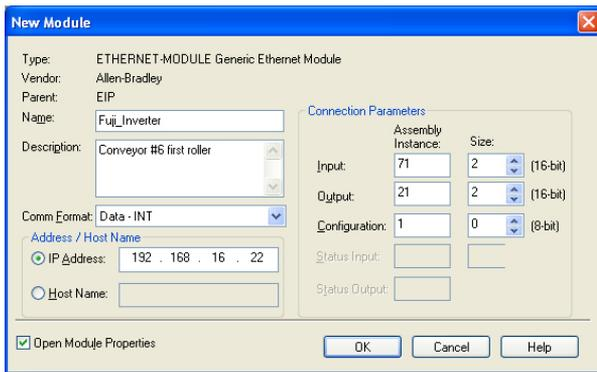

Figure 93: AC/DC Drive Profile Generic Ethernet Module Configuration
- 1) Complete all the steps in section 8.2.4. Please note that the Assembly Input Instance must be changed to 71 and the Assembly Output Instance must be changed to 21. Refer to Figure 93.